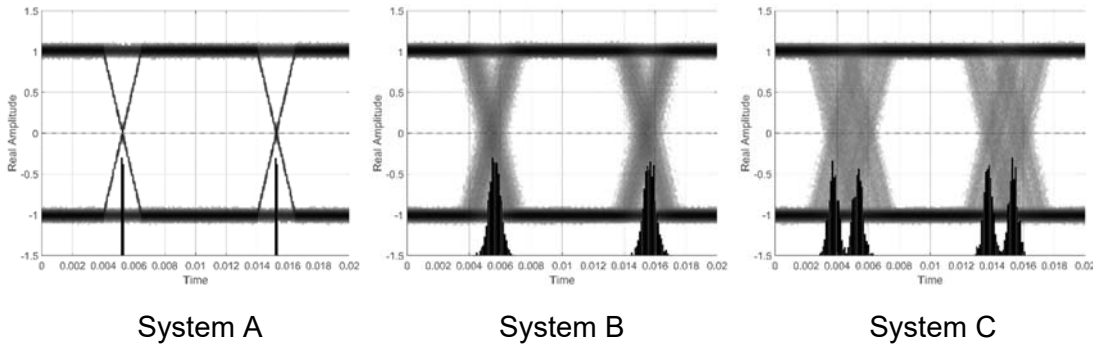

Figure 2.2
- (c) The eye diagrams (and the histogram at the eye crossings) of three different high-speed systems are shown in Figure 2.2. Based on the information provided, comment on the specific differences between the three systems.